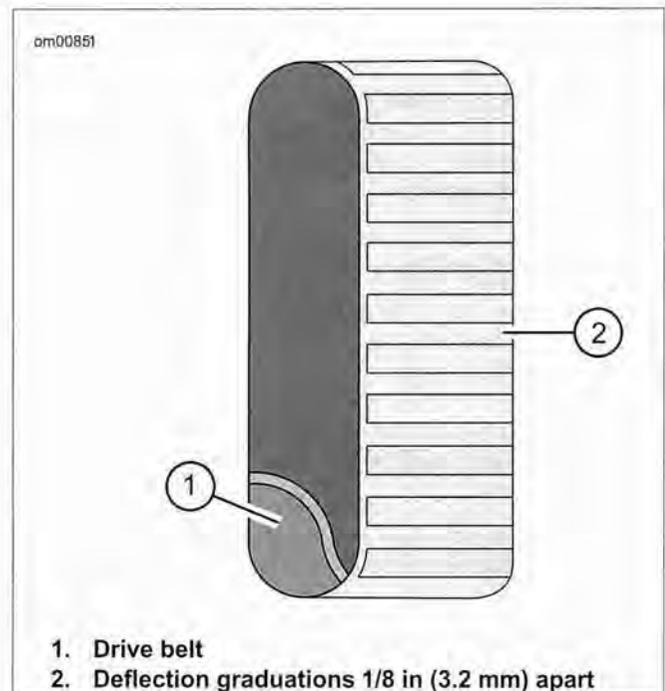

Figure 1-50. Belt Deflection Window: XL Models
- a. **XL Models:** See Figure 1-50. Note the belt position according to the graduations on the belt deflection window located on the drive belt guard.